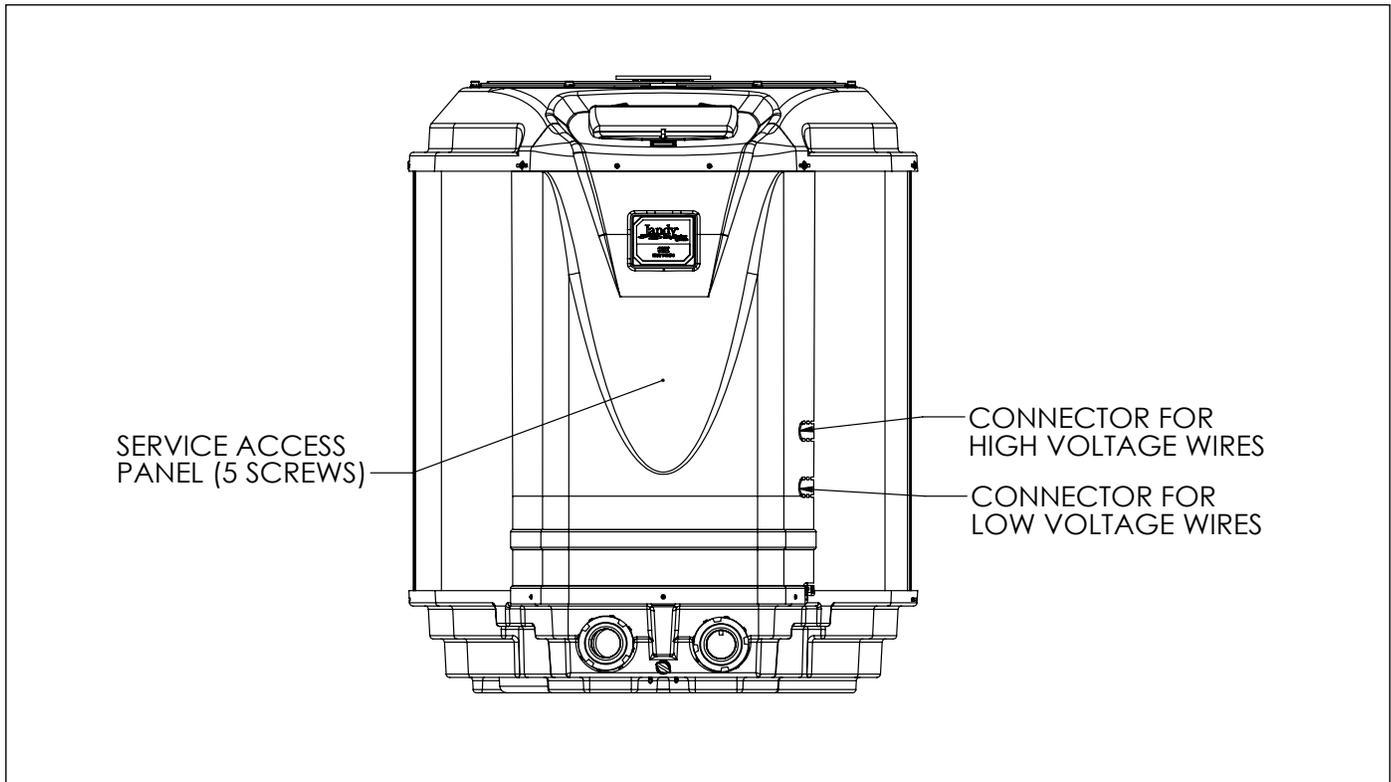

Figure 10. Jandy Pro Series JE Heat Pump Front View
2. Remove the five (5) screws that attach the service/access panel to the heat pump unit (see Figure 10).
4. Electrical supply lines must be run through watertight conduit. Route the wires and conduit through the knock-out designated for high voltage on the right side of the heat pump. Connect to the bottom of the sheet metal junction box. See Figure 10 for knock-out location.
panel to the heat pump unit and the cover to the junction box (see Figure 10).
3. Run the wires from the pool/spa control system into the conduit connection labeled “Low Voltage Connection”, located on the lower right hand side of the heat pump (see Figure 10).
2. Remove the screws that attach the service/access panel to the heat pump unit and the cover to the junction box (See Figure 10).
3. Run the wires from the pool/spa control system into the conduit connection labeled “low voltage connection”, located on the lower right hand side of the heat pump (See Figure 10).
**NOTE** If connecting more than two (2) items to the RS Power Center red, 4-pin connector, a Multiplex PCB is required.
2. Remove the five (5) screws that attach the front panel to the heat pump and remove the cover to the junction box. See Figure 10.
3. Run four (4) 22 AWG solid copper wires into the conduit labeled “Low Voltage Connection” located on the lower right hand side of the heat pump. See Figure 10. The wires may be up to 300 feet (91.4 m) in length.